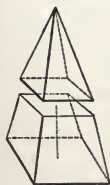

FIG. 57.
99. If a pyramid be cut by a plane, parallel to the base, so as to form two parts, as in Fig. 57, the lower part is called the frustum of the pyramid.